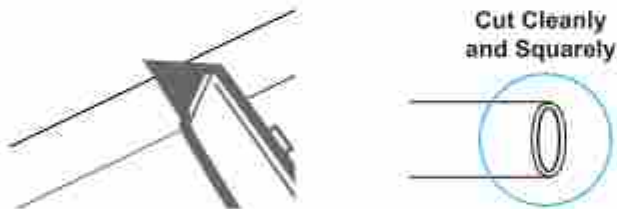

Figure 1
**NOTE:** If the tubing is too long, cut it to a suitable length with a sharp utility knife or scissors. Cut the tubing squarely and cleanly (Figure 1). Make sure the tubing is fully inserted (about 0.8”).